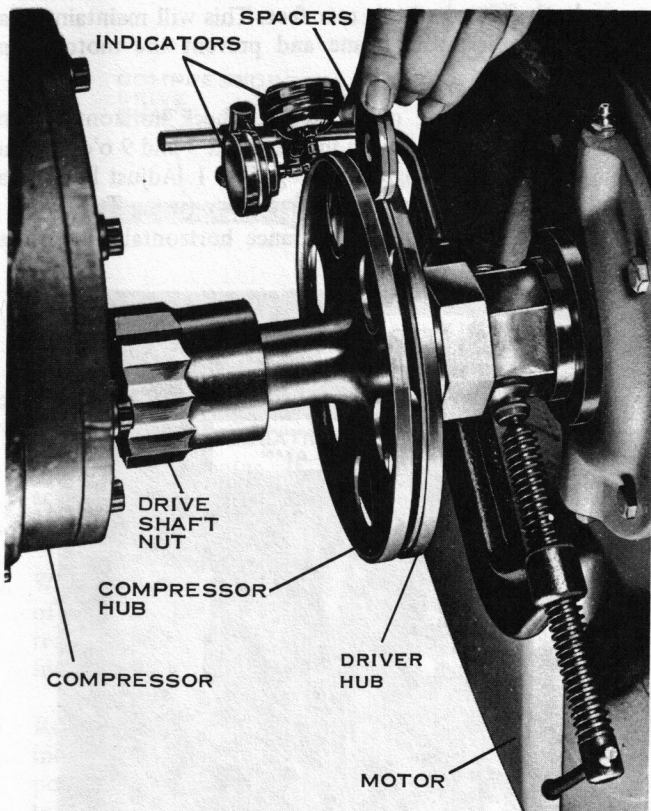

FIG. 5— CHECKING SPACE BETWEEN HUBS
- b. *York-Flex Coupling* — Push the compressor drive shaft into the compressor and push the motor shaft into the motor as far as they will go. (For LKA compressors, the shaft cannot be pushed into the compressor because of the internal pressure.) Select a stack of spacers that will fit between the hubs at the extreme outer edges, (See Fig. 5). Record the